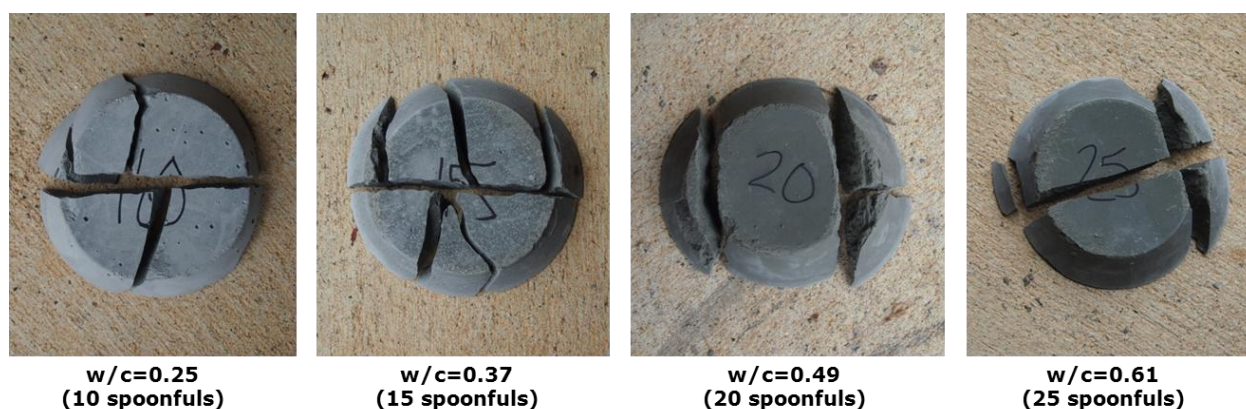

Figure 2. Pucks with different w/c ratios after dropping from a height of at least 15 feet.
21. Drop the pucks from a height of at least 15 feet. The top of a set of bleachers works well as long as the puck can fall on a hard, solid surface. The second floor or roof of a school building or a tall play set will also work. The pucks should be dropped in an 'upright' position (how they were poured in the bowl/pipe mold). Try to drop the pucks as evenly as possible – as if you were dropping a bowl full of oatmeal and want it to land in an upright position so that nothing spills. Have students stand in a semi-circle at least 15 feet away from the point of impact so that everyone can see what is happening. Figure 2 shows pucks with different w/c ratios after dropping from a height of at least 15 feet.